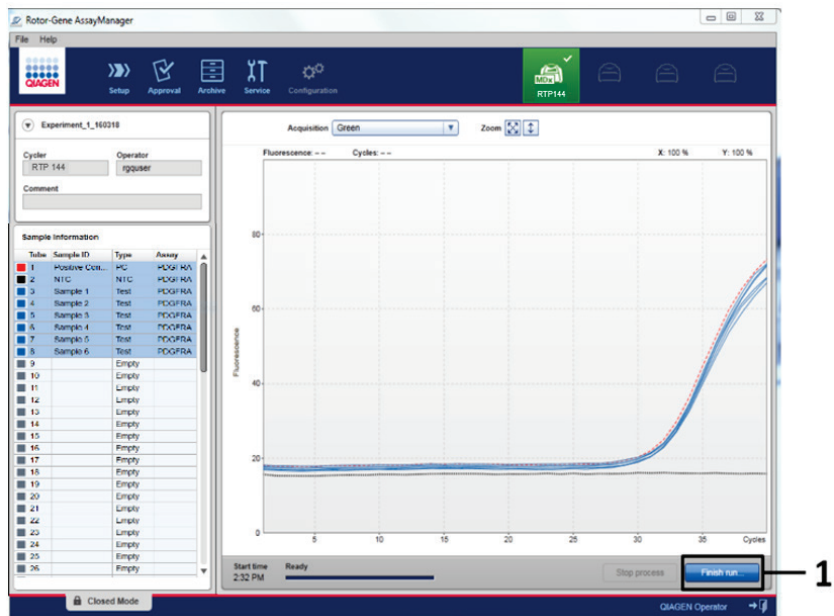

Figure 10. Finishing a run. 1 - Finish run button.
26. After the run is complete, click **Finish run** (Figure 10).